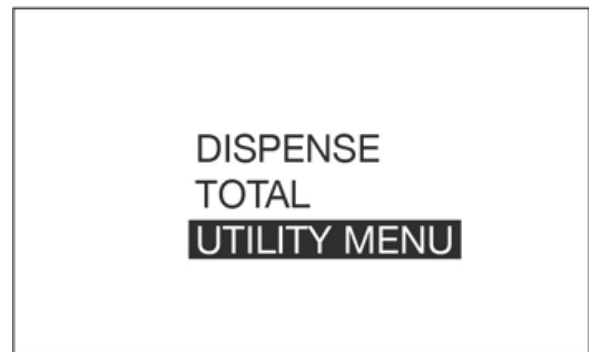

FIG. 12
1. Use the UP or DOWN ARROW button on the keypad to highlight UTILITY MENU (FIG. 12) and then press the center ENTER button on the keypad to select the UTILITY MENU option.